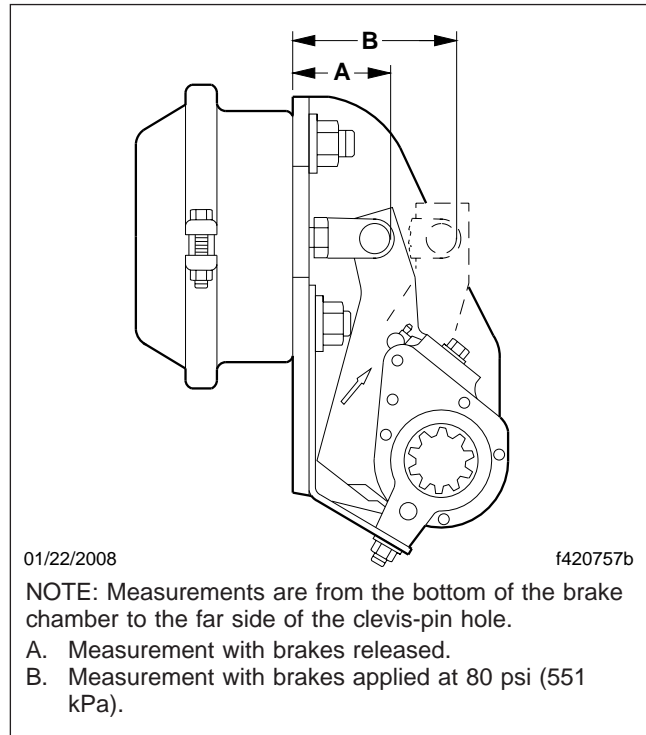

Fig. 4, Brake Applied Stroke Check
- 6.1 With the brakes released (pushrod fully retracted), measure the distance from the bottom of the brake chamber to the far side of the clevis-pin hole. See Fig. 4. Record the exact distance as measurement A.